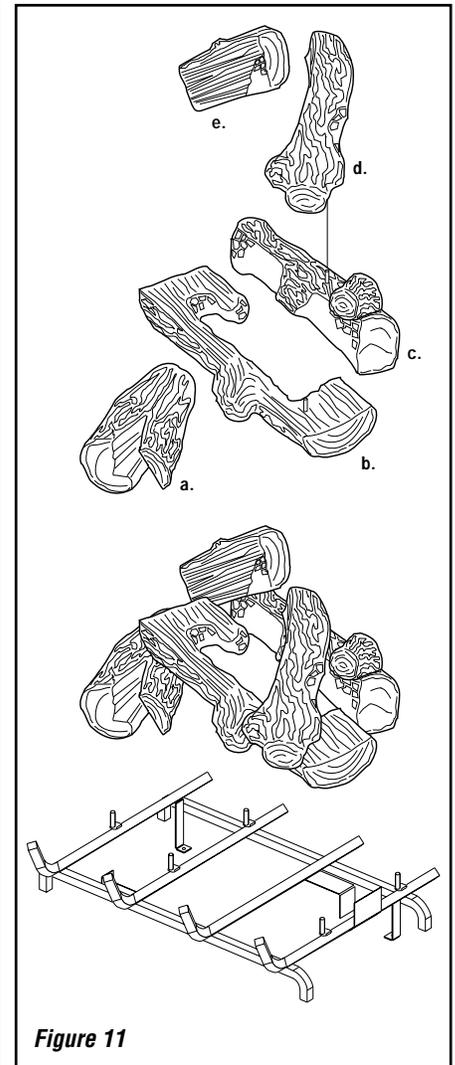

Figure 11
These appliances are equipped with a beautifully crafted five (5) piece ceramic fiber log set. The logs, shown in **Figure 11 on page 8**, are to be positioned precisely as shown. Any modification to the to the lay of these logs may result in sooting, property damage and injury or death.
Step 1. To position the logs, begin by placing the rear log (c) in position over the two pins located at the right center rear and right rear of the log grate (**refer to Figure 11**).
When properly positioned the logs should appear as illustrated in **Figures 11 and 12**. Logs must not impinge any of the flames.